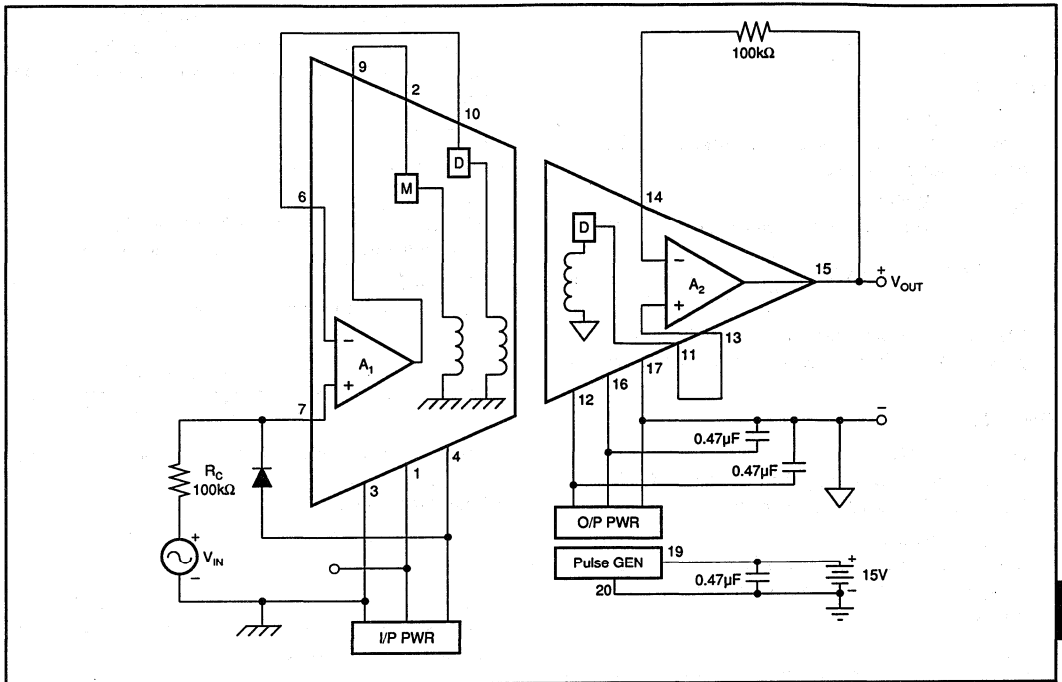

FIGURE 2. Power: Three-Port Isolation; Signal: Unity-Gain Noninverting.
- The input voltage at pin 7 (noninverting input to A_1) must not exceed the voltage at pin 4 (negative supply voltage for A_1) in order to prevent a possible lockup condition. A low leakage diode connected between pins 7 and 4, as shown in Figure 2, can be used to limit this input voltage swing.
NOTE: Figures 2, 3 and 4 are used to illustrate both signal and power connection configurations. In the circuits shown, the power and signal configurations are independent so that any power configuration could be used with any signal configuration.
The power supply connections in Figure 2 show the full three-port isolation configuration. The system has three separate grounds with no galvanic connections between them. The two external $0.47\mu\text{F}$ capacitors at pins 12 and 16 filter the rectified isolated voltage at the output stage. Filtering on the input stage is provided by internal capacitors. In this configuration continuous isolation voltage ratings are: 3500V between pins 3 and 17; 3500V between pins 3 and 19; 1000V between pins 17 and 19.
The signal path portion of Figure 2 shows the 3656 is its simplest gain configuration: unity gain noninverting. The two $100\text{k}\Omega$ resistors provide balanced resistances to the inverting and noninverting inputs of the amplifiers. The diode prevents latch up in case the input voltage goes more negative than the voltage at pin 4.